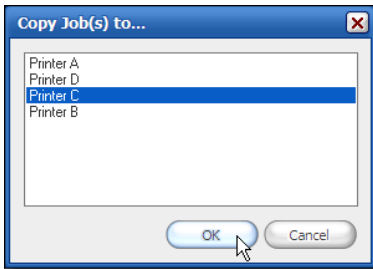

Figure 13—Copy Job Option
2. Select **Copy to....** This opens the Copy to... dialog (see Figure 13).